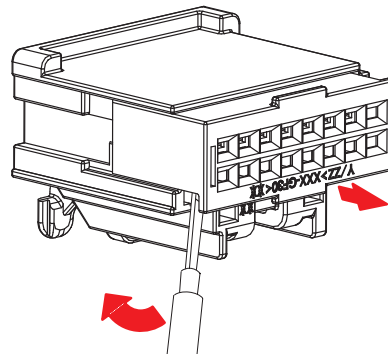

Figure 4
3. Place the extraction tool tip in the gap between the housing and TPA pulling the corners forward, individually to disengage the side latches. See Figure 4.